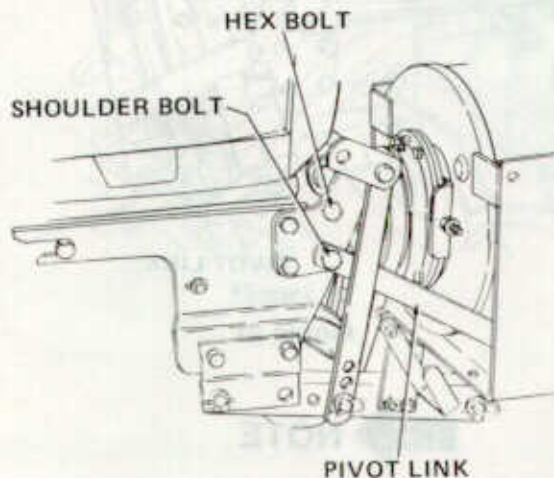

Figure 23
- c. Secure free end of each pivot link to remaining lower hole with shoulder bolt, lock washer and hex nut. Refer to Figure 23.